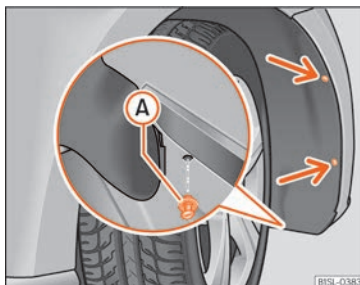
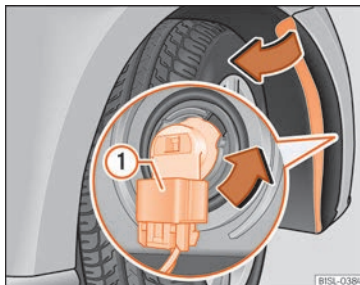

Fig. 50 Front right wheel arch: access to the bulb
Fig. 51 Changing the bulbs in the headlights
- Unscrew 2 securing bolts from the wheel arch trim »» Fig. 50 (arrows) with the screwdriver in the vehicle tool kit »» page 35.
- Unscrew the expansive rivet in the lower front part of the wheel arch trim ① with the screwdriver from the vehicle tool kit and completely remove it »» page 35.
- Release the connector »» Fig. 51 ① and remove it.
- Turn the bulb holder »» Fig. 51 in the direction of the arrow, **anticlockwise** as far as it will go and remove it together with the bulb by pulling it backwards.
- Plug the connector ① into the bulb holder. The connector must audibly click into place.
- Place the expansive rivet in the wheel arch trim and bumper and press it completely inwards »» Fig. 50 ①.
- Securely tighten the 2 securing bolts »» Fig. 50 (arrows) with a screwdriver.